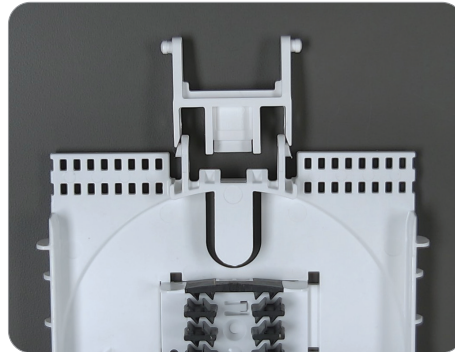

Figure 5
2. Position the adapter where the slots are under the retention tabs and slide on Apex tray. (Figures 5 and 6)